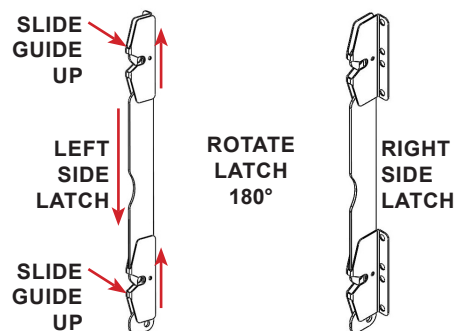

FIGURE 3.5 - Latch Assembly Rotate
STEP 4: Flip, rotate the latch assembly so the latch bar is on the inside of the cage frame and that both latch guides are in the top position. Hold the latch guides while sliding the latch bar down to the lowest position on both guides. See FIGURE 3.5